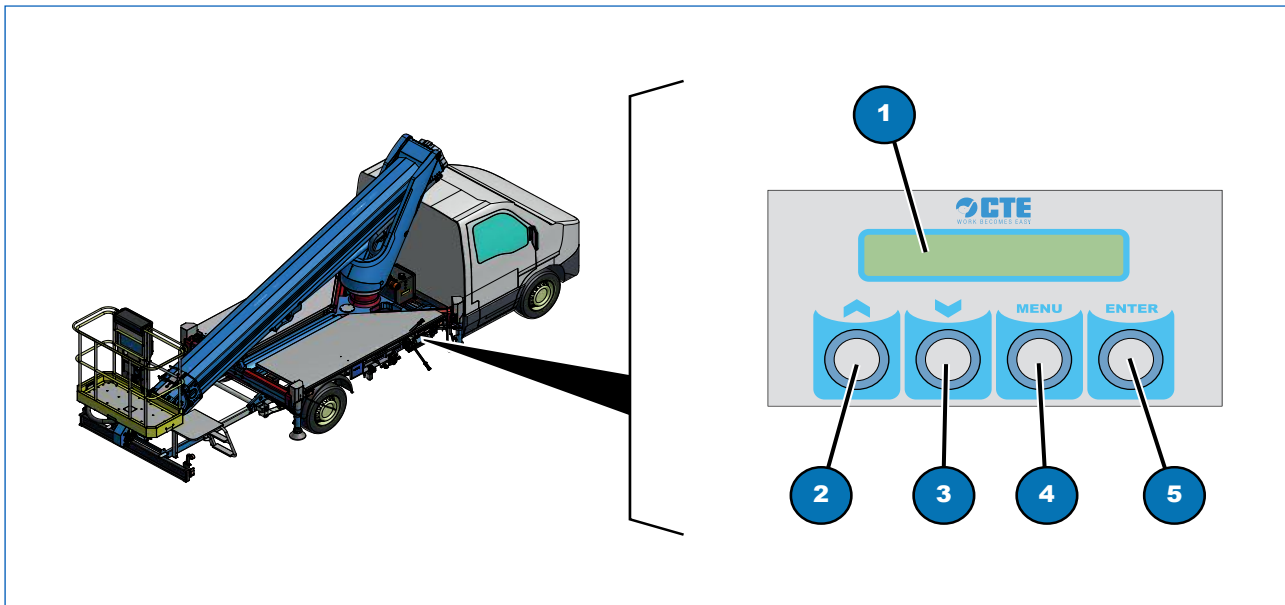

Fig. 6.7
- press the MENU button (Fig. 6.7 - 4) for about 3 seconds;
- use the UP (Fig. 6.7 - 2) and DOWN (Fig. 6.7 -3) buttons to scroll through the pages of the menu:
- press the ENTER button (Fig. 6.7 - 5) on the required page to access the corresponding sub-pages;
- use the UP buttons (Fig. 6.7 - 2) and DOWN (Fig. 6.7 - 3) to browse the sub-pages;